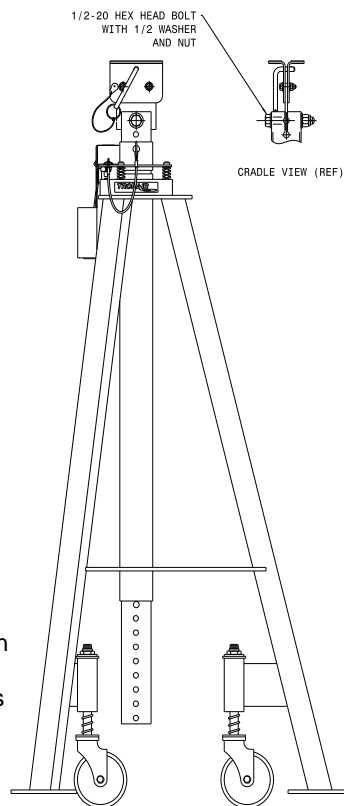

FIGURE 3
2. Fasten cradle assembly to extension tube with $\frac{1}{2}$ - 20 x $3 \frac{1}{4}$ " hex head bolt, $\frac{1}{2}$ " flatwashers, and $\frac{1}{2}$ - 20 elastic stopnuts. **Reference Figure 3**